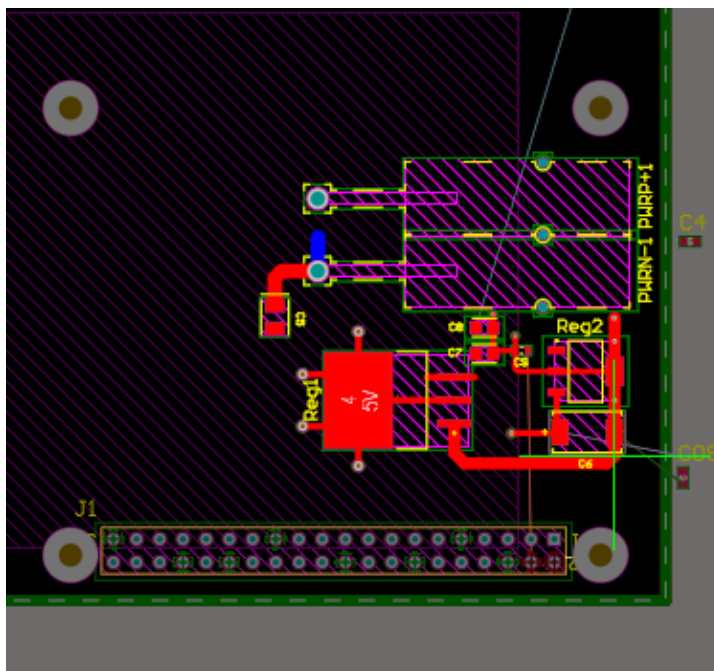

Figure 9. Placed Power Supply WCTopping reuse block
30. Position the Power Supply WCTopping reuse block inside the Board, use Figure 9 as reference.